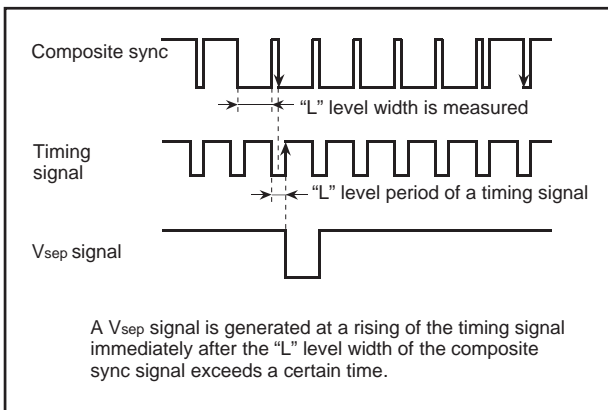

Figure 14.6 Vsep generating timing (method 2)
- Method 2 The “L” level width of the composite sync signal is measured. If this width exceeds a certain time, it is detected whether a falling of the composite sync signal exits or not in the “L” level period of the timing signal immediately after this “L” level. If a falling exists, a Vsep signal is generated in synchronization with the rising of the timing signal (refer to Figure 14.6).
Figure 14.6 shows a Vsep generating timing. The timing signal shown in the figure is generated from the reference clock which the timing generating circuit outputs.